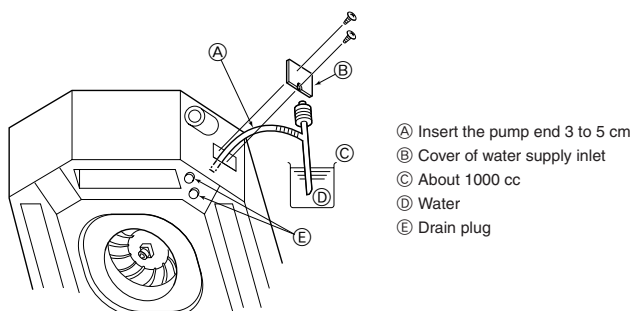

Fig. 7-5
- (A) Insert the pump end 3 to 5 cm
- (B) Cover of water supply inlet
- (C) About 1000 cc
- (D) Water
- (E) Drain plug
7.4. Check of drainage (Fig. 7-5)